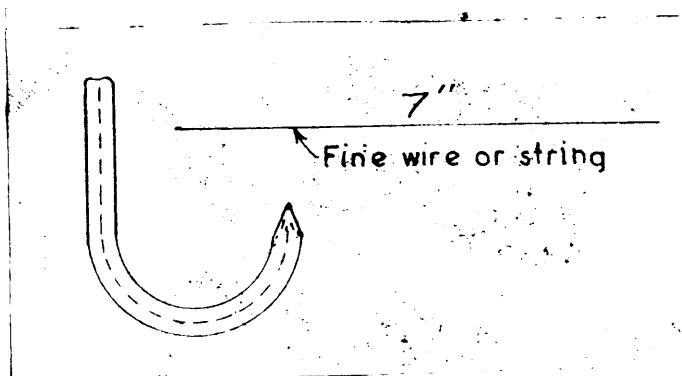

Figure 7.
3. In measuring irregular shaped stock, small wire can be bent into the desired shape and then straightened out and measured. Also a piece of string may be used, if the shapes are suited. (Figure 7).